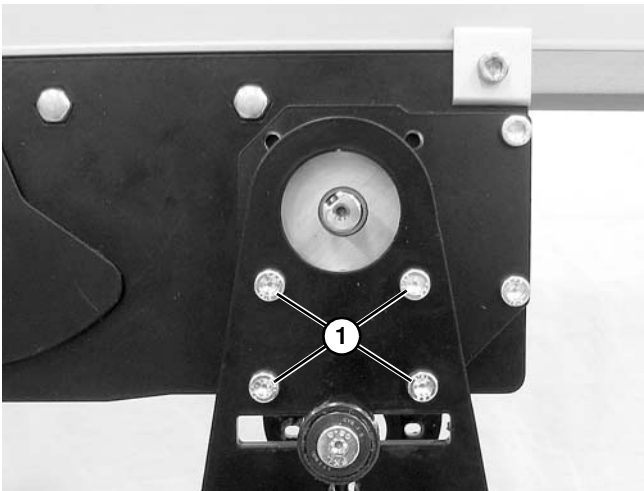

Figure 48
3. Remove four mounting screws (**Figure 48, item 1**) and remove gearmotor.